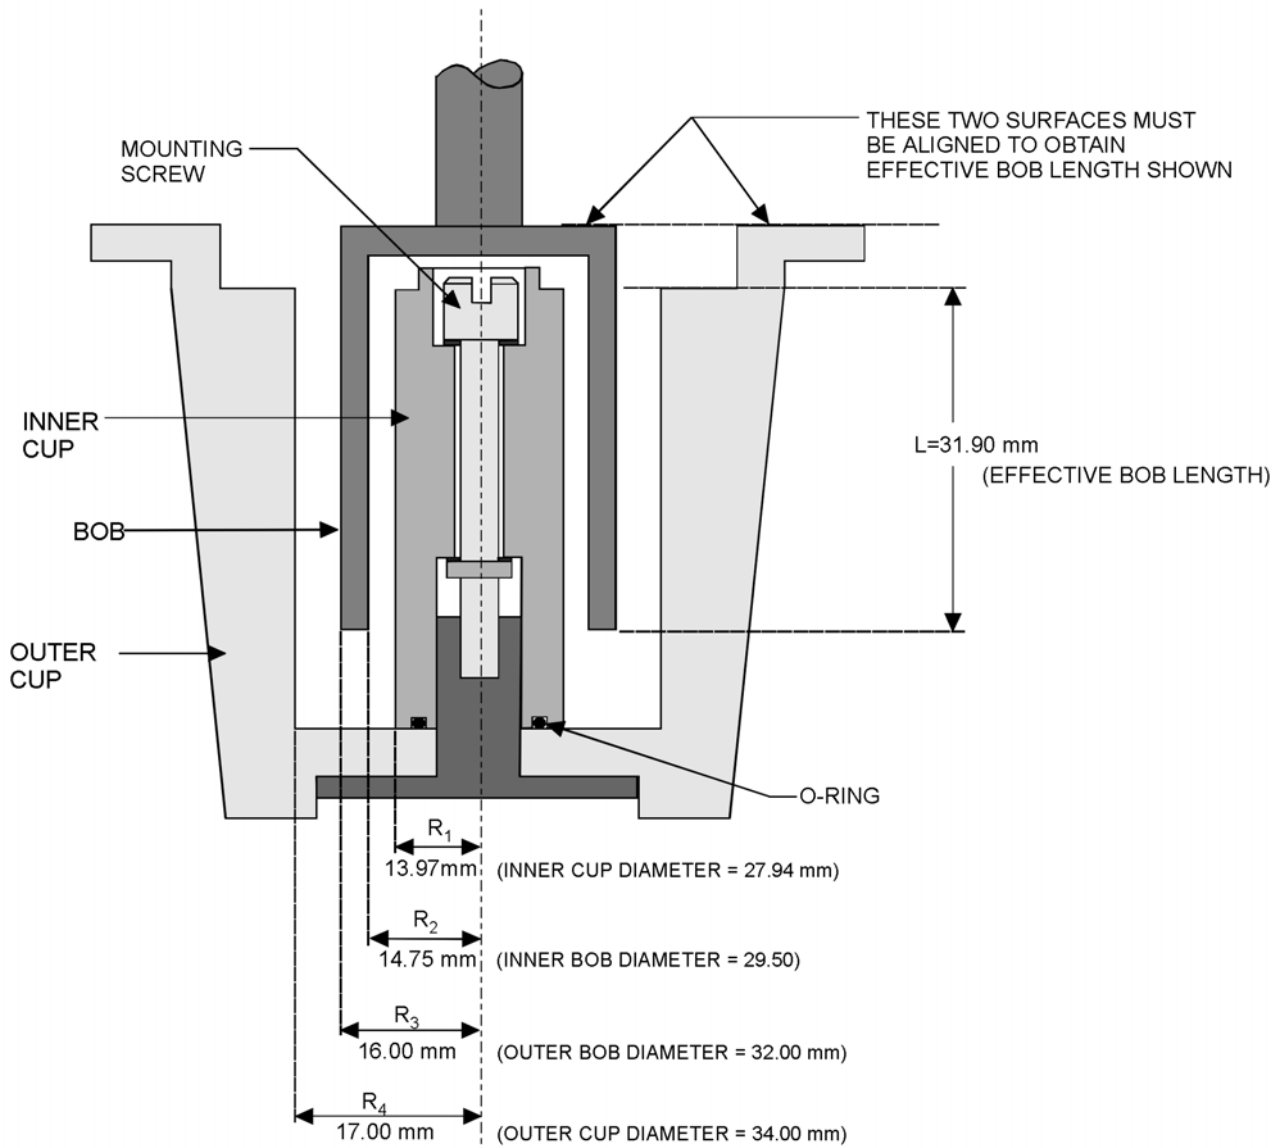

Figure 4-12. Double Wall Couette
1. Assemble the lower tool (cup) by installing the inner cup into the outer cup using the mounting screw provided (Figure 4-12). Make sure the o-ring is present, clean, and free of defects.